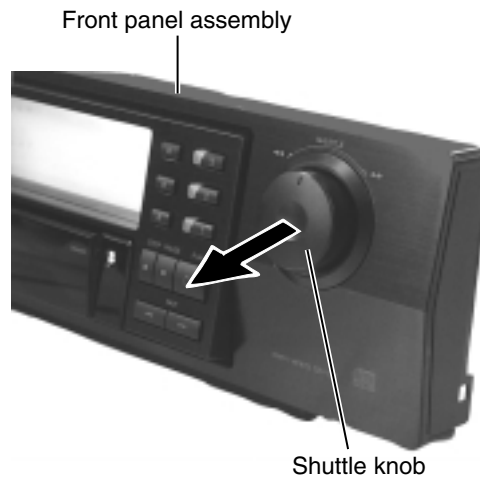

Fig.16
■ Removing the Volume board (See Fig.16 and 17)